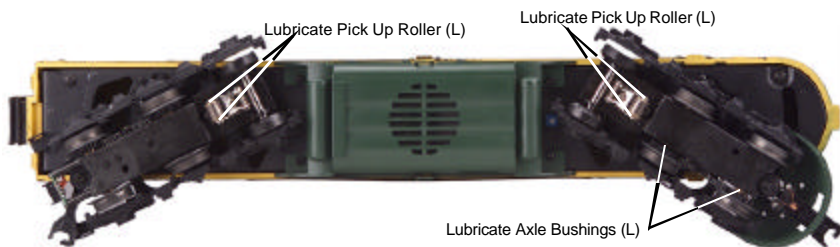
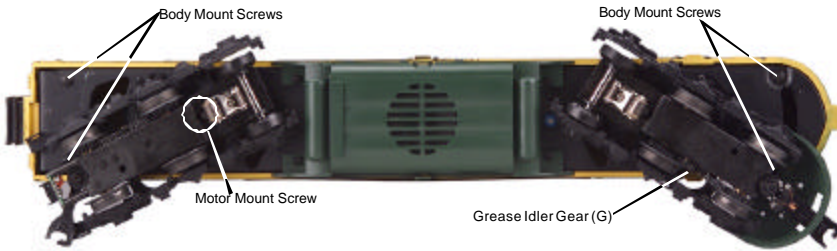

Figure 6. Lubrication Points on the Locomotive
Figure 7. Location of Body Mount Screws and Greasing Points on the Locomotive
1. Although the engine was lubricated at the factory, it is important that you lubricate the chassis before operation. Lightly grease the outside idler and drive gears (marked “G” in Fig. 7 on pg. 13) with lithium-based grease to prevent them from squeaking. Use light household oil and follow the lubrication points marked “L” in Fig. 6 on p. 12. Do not over-oil. Use only a drop or two on each pivot point.
You should regularly lubricate the engine to prevent it from squeaking. Use light household oil and follow the lubrication points marked “L” in Fig. 6. Do not over-oil. Use only a drop or two on each pivot point.
1. To access the gear box, remove the cab from the chassis by unscrewing the chassis screws as seen in Figure 7 and lifting the cab from the chassis.
2. Once the cab is removed, remove the trucks by unscrewing the black Phillips motor mount screw located on the underside of the drive trucks (see Fig. 7).
Lubricate the outside truck block idler and drive gears with grease. Use the diagram shown in Figure 6 below as a guide and add grease to the points marked with a “G.”
B. Remove the trucks from the chassis and the truck sides from the trucks in order to slip the new tire over the grooved drive wheel. See Fig. 7 for which screws you must remove to do this.